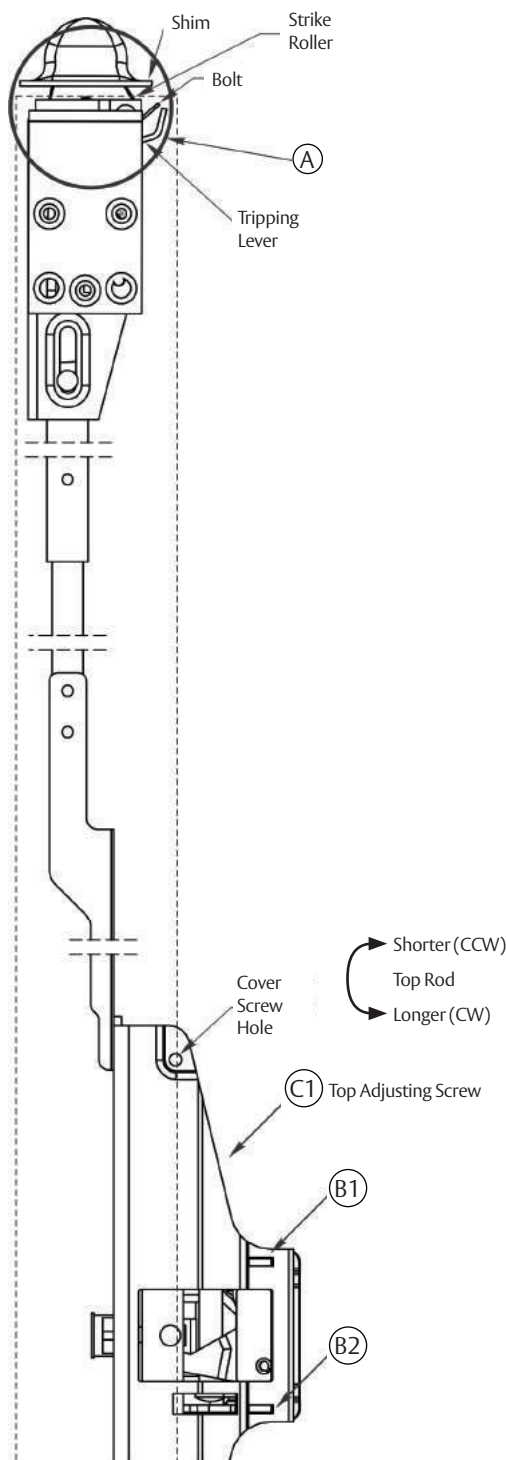

Figure 20
2. Set strike roller between tripping lever and bolt. DO NOT PRELOAD BOLT. (Figure 20)
- a. Use 3/32" (2.4 mm) hex wrench to remove set screws B1 and B2. (Figure 20)
- b. Adjust top rod first with adjusting screw C1. (Figure 20)